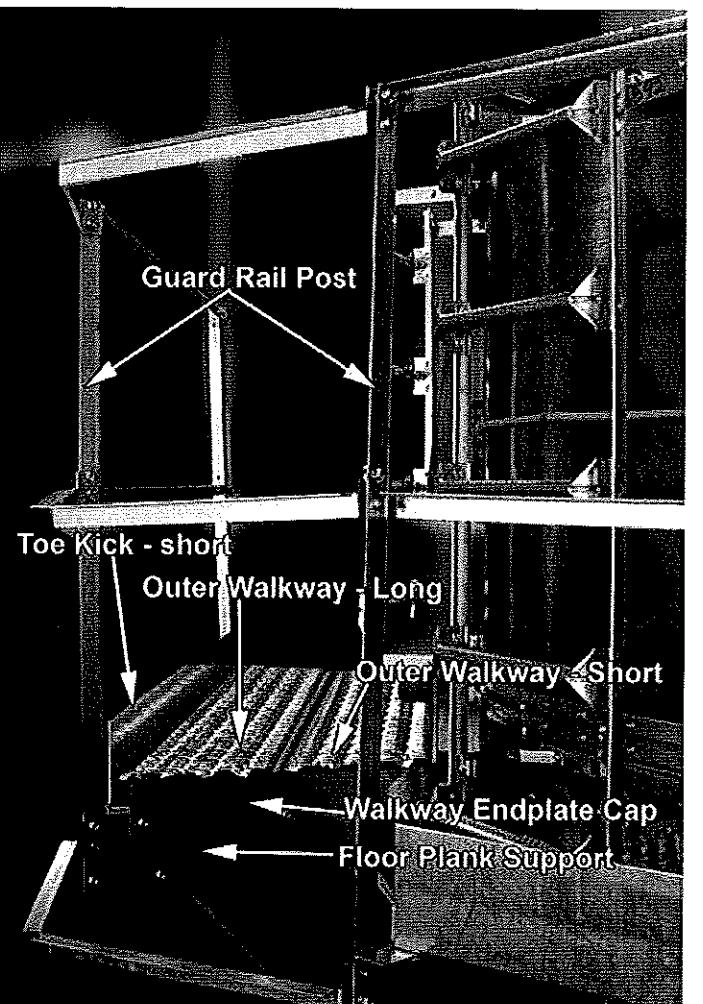

Figure 17
- Bolt the field formed safety cage angles to the guard rail post. See Figure 17.